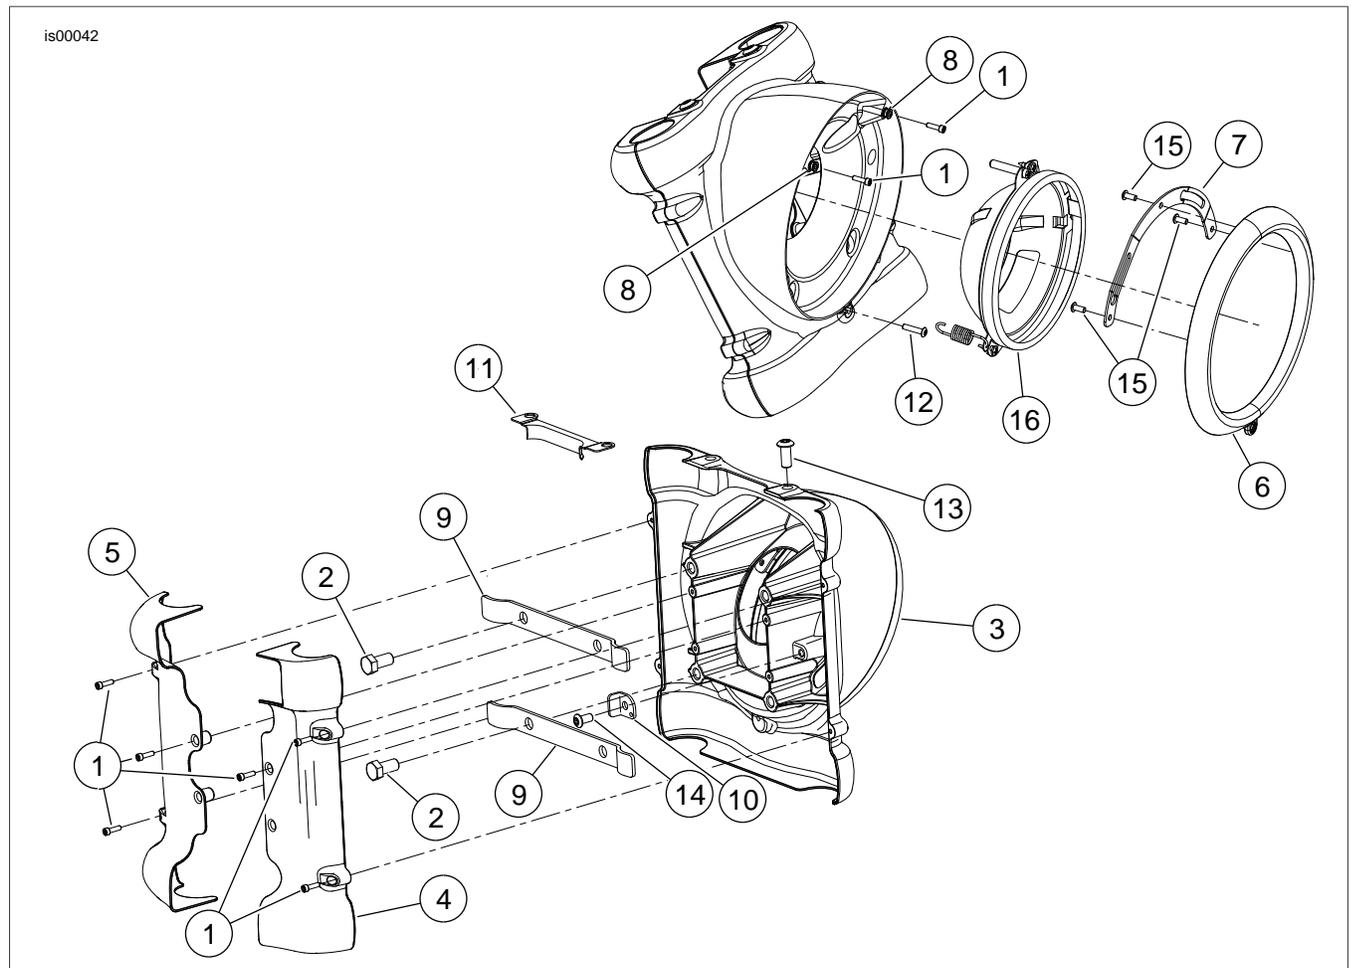

Figure 8. Service Parts for Chrome Headlight Nacelle
6. See Figure 8. Install two metal grommets (8) and screws (1) to the nacelle. Tighten screws to 10-15 **in-lbs** (1.1-1.7 Nm).
7. See Figure 8. Install three screws (15) and the trim ring bracket (7) to the trim ring (6). Tighten screws to 20-30 **in-lbs** (2.3-3.4 Nm). Set the assembled parts aside for later installation.